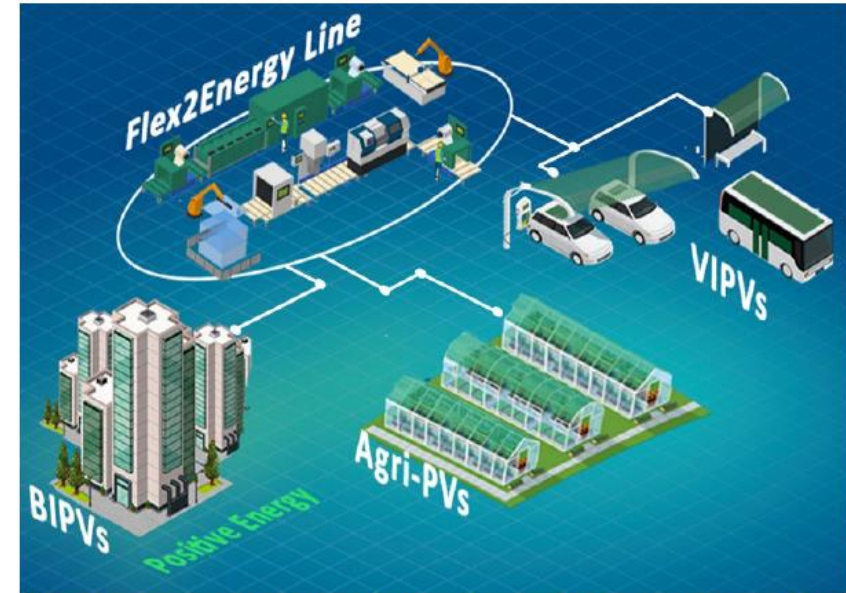

Fig. 1. F2E automated Manufacturing line for OPVs and IPV products to open the way for energy positive buildings & to minimize landscape
- Implementation of novel IPV products for energy positive building concept (Fig. 1)